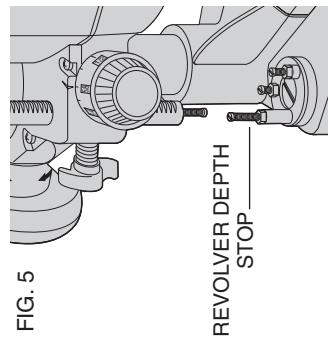

FIG. 5
- 5) Turn the height adjustment knob counterclockwise until it hits the revolver depth stop (Fig. 5).
- TRIPLE DEPTH ADJUSTMENT USING THE REVOLVER DEPTH STOP (FIG. 5)**